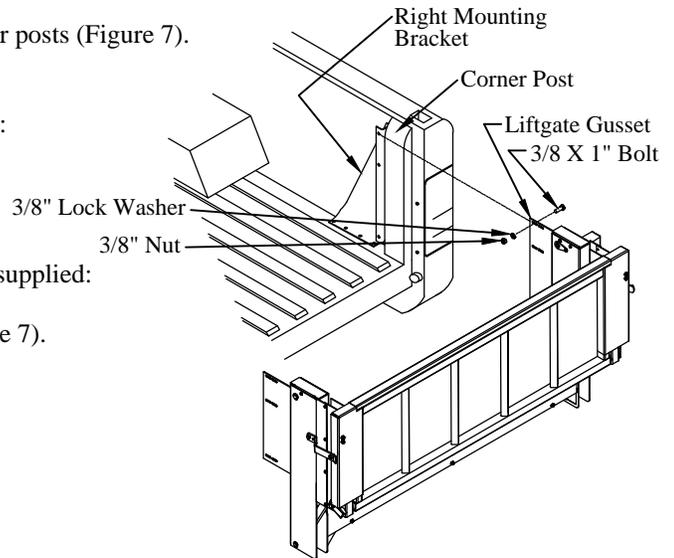

Figure 7: Mounting bracket and liftgate.
1. Position the mounting brackets into the truck bed in front of the corner posts (Figure 7).
- (3) 3/8"x1" hex head bolts on the bracket-side (Figure 7).
- (3) 3/8" lock washers, and (3) 3/8" nuts on the gusset-side (Figure 7).
7. Drill two (2) 3/8" holes into the truck bed floor using two holes in the bracket as a guide.